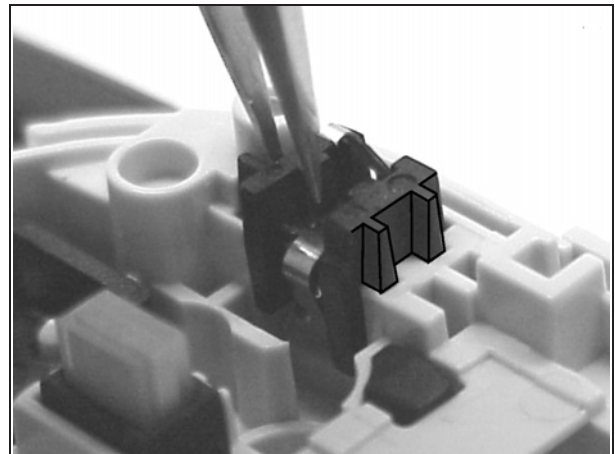

Figure 7-23.
2. Grasp antenna bushing contact with tweezers and insert into contact slot using two-spline side for visual alignment. (See Figure 7-23.)